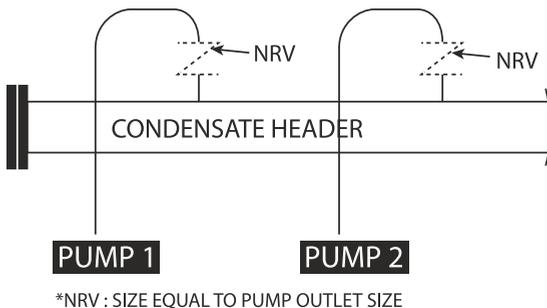

Figure 7: More than one pump connected to common condensate line
5.2 In case more than one condensate pump is connected to a common Condensate line: (Refer to Figure 7)